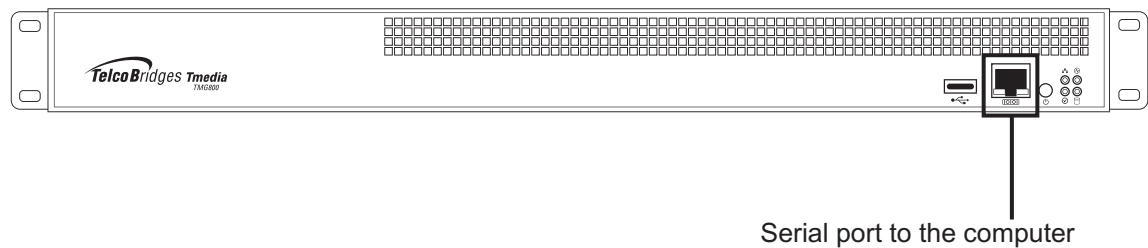

Figure 7.1 Computer to Tmedia VoIP Gateway Serial Port Connection
1. Connect a CAT5 RJ-45 (male-male) cable (supplied with unit) between the com port of your computer and the serial port (labelled 10101) of the Tmedia VoIP Gateway as shown in figure 7.1 on page 62. See page 93 in Appendix A for a RJ-45 pinout description.